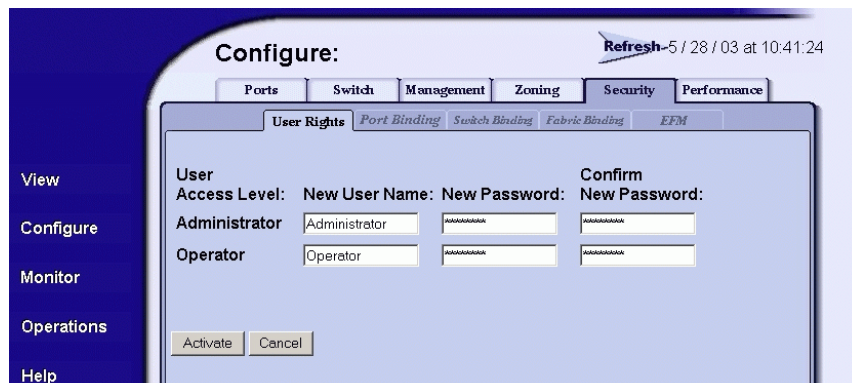

Figure 2-75 Configure Panel (Security Page with User Rights Tab)
1. At the *Configure* panel, click the *Security* tab. The *Management* page displays with the *Authorize Users* tab selected (Figure 2-75).